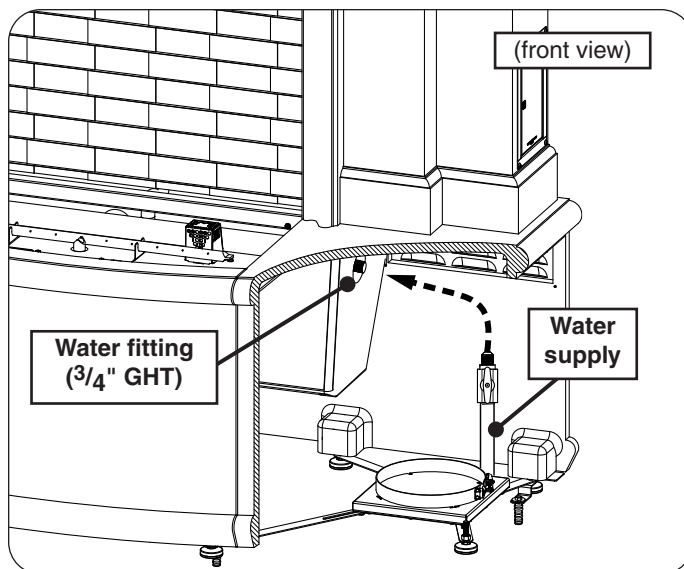

Fig. 30-3 Connect water supply (if applicable)
2. Plumb the water supply to the $\frac{3}{4}$ " GHT fitting (see Fig. 30-3).